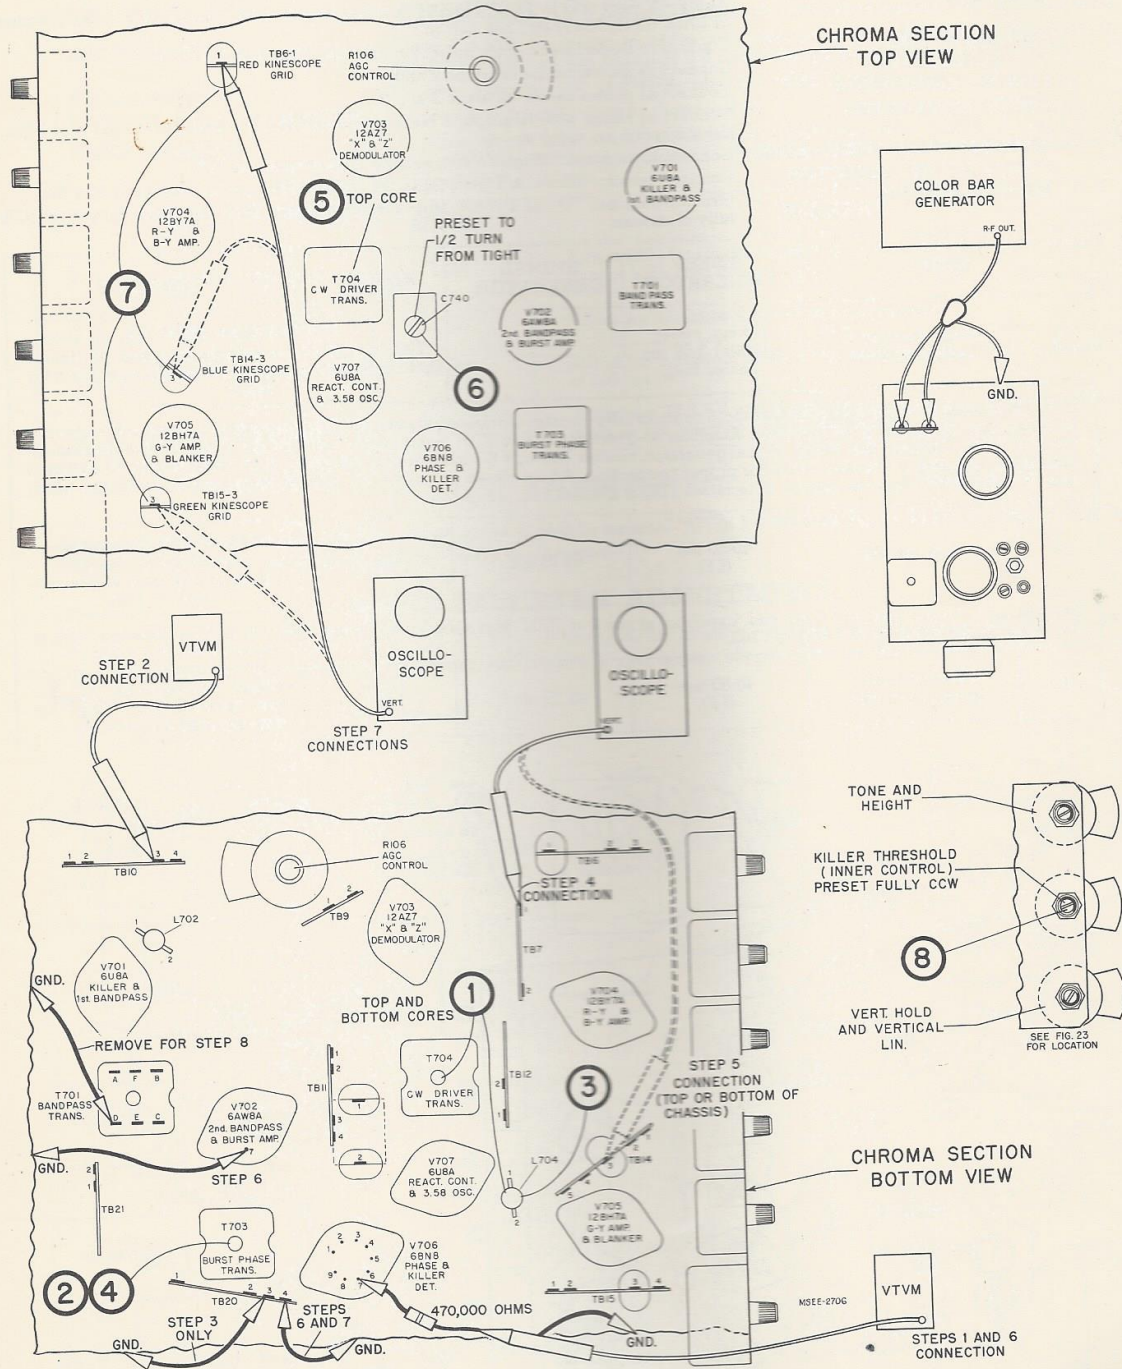

Figure 40—Color AFPC Alignment
- OSCILLOSCOPE..... Connect to junction of L701 and C710 at terminal 1 of terminal board TB7 as shown in Figure 40.
COLOR BAR GENERATOR... Connect to antenna terminals. Adjust receiver for color reception. Refer to Figure 40.
Set tint control to center of its range. Turn killer control fully counter-clockwise. Insert a nine (9) pin adapter—which has connection to pin 1 opened, thereby disconnecting pin 1—into the Demodulator V703 tube socket. This disables the "Z" Demodulator while the "X" Demodulator remains operative. Insert the tube into the adapter. Shunt the green and blue kinescope grids to ground through 100,000 ohm resistors at TB14-3 and TB15-3, refer to Figure 40 for tube and TB locations.
Remove the adapter and replace the demodulator tube in its socket. Move the 100,000 ohm shunt on the blue kinescope grid to the red kinescope grid at TB6-1, see Figure 40.